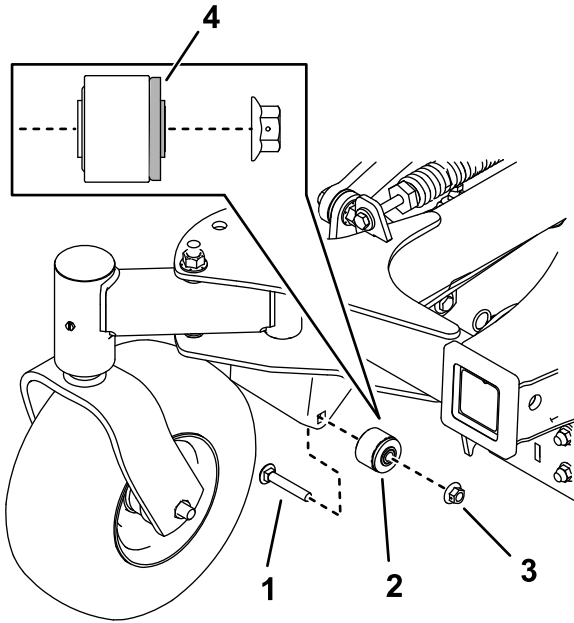

Figure 8
4. Thread-forming bolt (2)
- Use a carriage bolt (3/8 x 2-1/4 inches) and nut (3/8 inch) to install the bushing assemblies to the machine (Figure 8). Torque the bolt to 37 to 45 N·m (27 to 33 ft-lb).
Note: The rubber flange of the bushing should face toward the inside of the machine as shown in Figure 8.